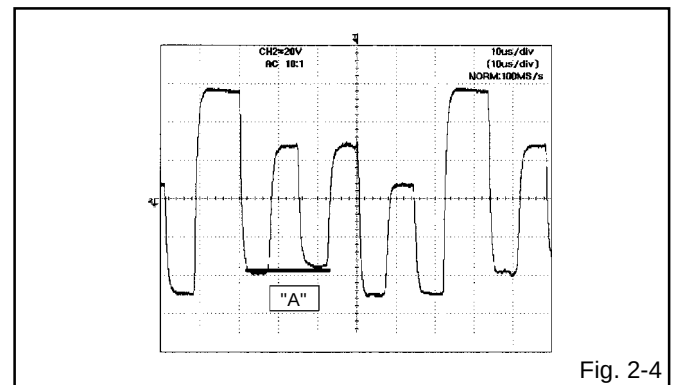

Fig. 2-4
5. Press the VOL. UP/DOWN button on the remote control until the section "A" becomes a straight line (Refer to **Fig. 2-4**).